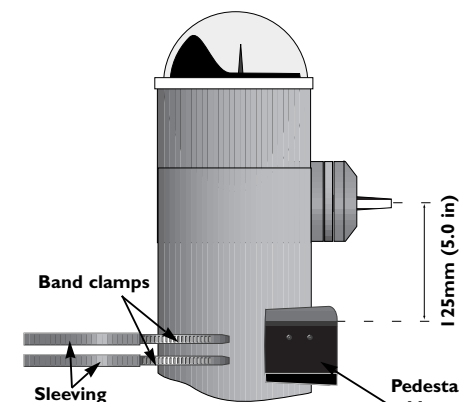

Fig 4.4 - Correct positioning of pedestal mount
2. Position the pedestal mount on the front of the pedestal. The vertical distance between the centres of the circular slots and the centre of the wheel shaft should be 125mm (5.0 in) and the clamp should be exactly parallel with the wheel in both planes (Fig 4.4).